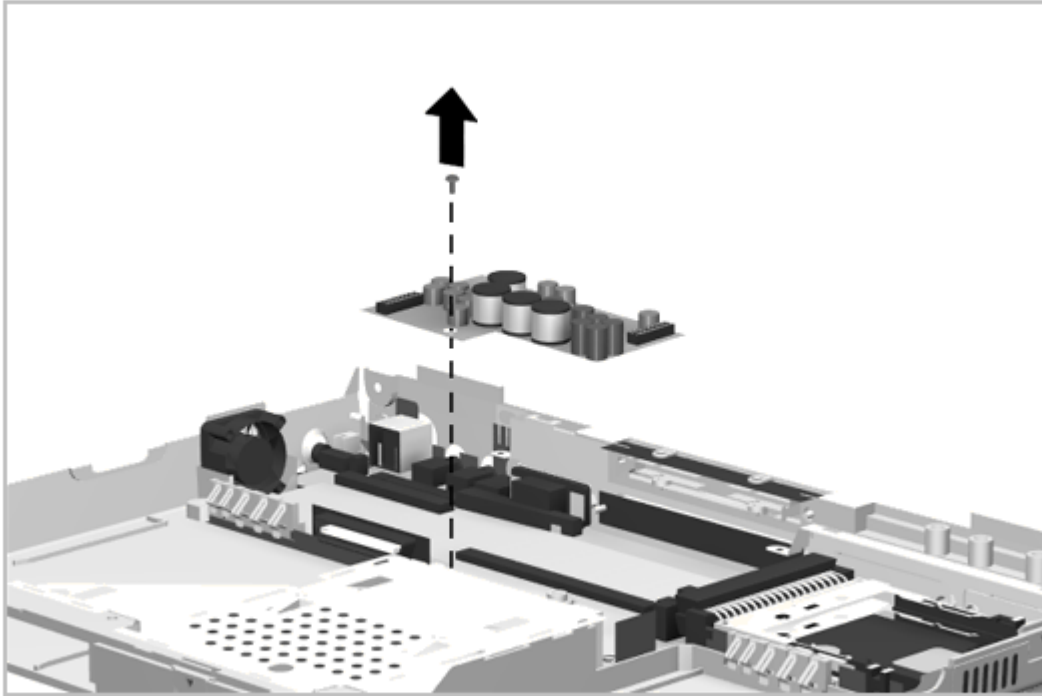

Figure 5-55. Removing the Power Board
2. Remove the screw near the hard drive bay (Figure 5-55) and lift the power board out of the computer.